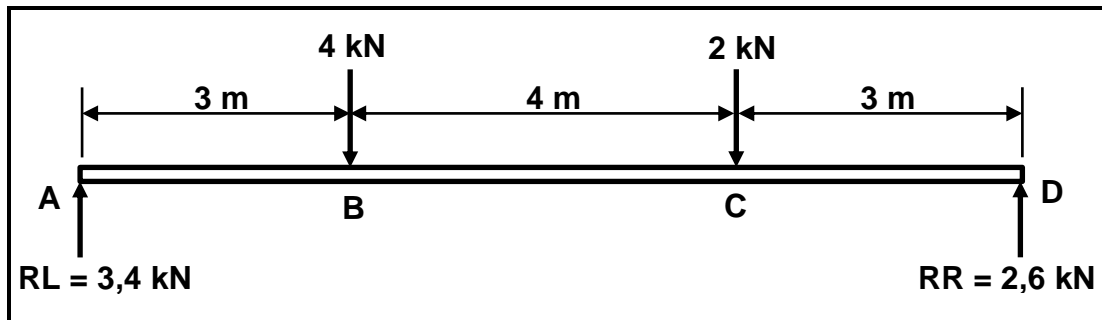

FIGURE 7.2
7.2 FIGURE 7.2 below shows a simply supported beam with TWO point loads.